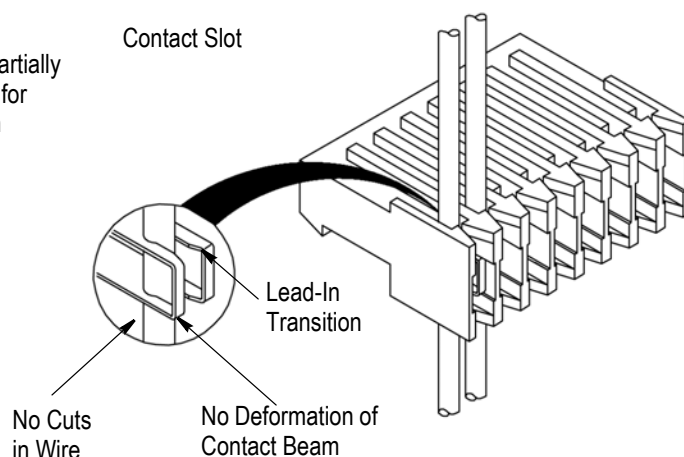

Figure 4
1. Using a small knife, cut off the wire retainers (strain relief) from both sides of the test connector. See Figure 4.
7. Refer to Figure 4 and visually inspect the connector according to the following. If wire insertion depth is found to be improper, refer to Section 5 for head adjustments.